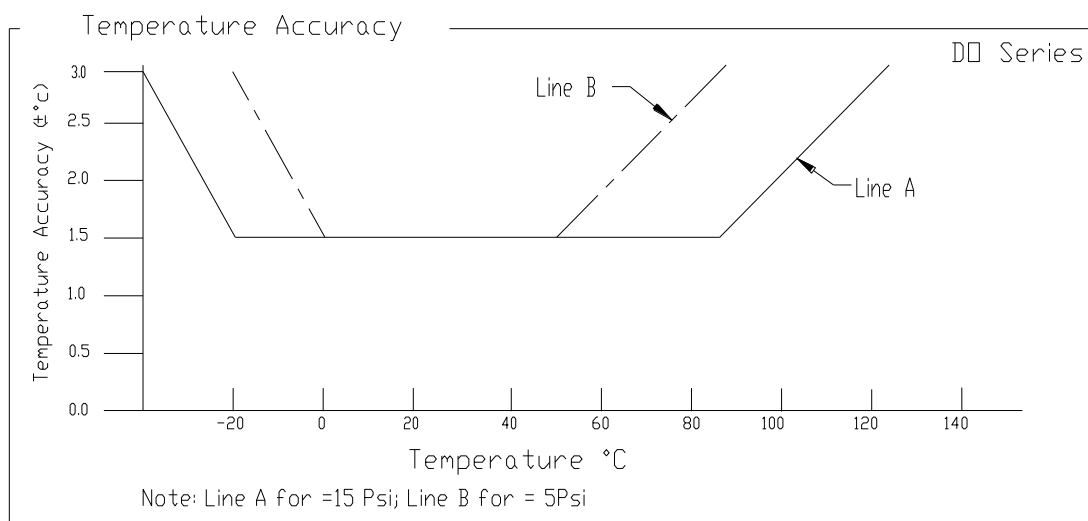

Fig 2
4. The deviation from a best fit straight line (BFSL) fitted to the output measured over the compensated temperature range. For errors beyond the compensated temperature range, see Figure 2.